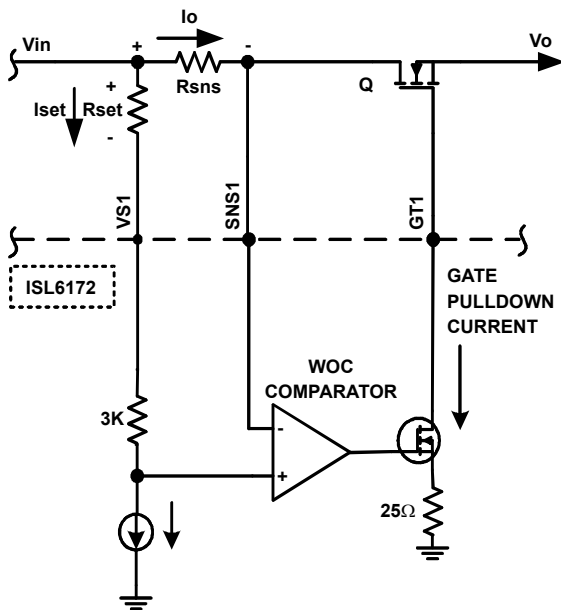

FIGURE 16. WOC OPERATION
3. Way Overcurrent (WOC) Mode: This mode is designed to handle hard shorts on the load side, which can result in very high di/dt . Typically, the current limit set for this mode is 300% of the current regulation limit. This mode uses a very fast comparator, which directly looks at the voltage drop across R_{SNS} and pulls the gate very quickly to GND (as shown in Figure 16) and immediately releases it. If the WOC is still present, the IC enters current regulation mode and the rest of the current regulation behavior follows as described earlier under current regulation mode.